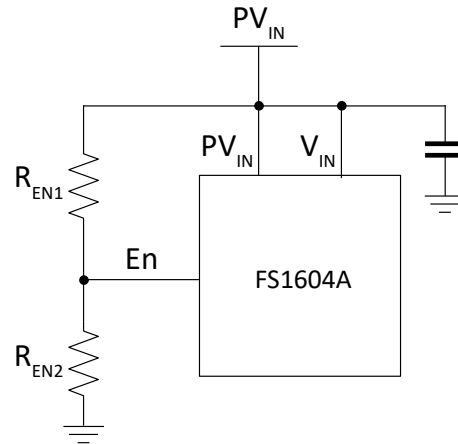
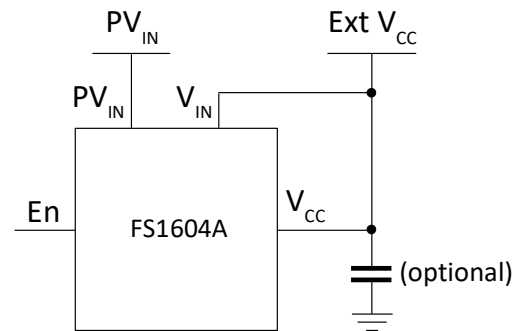

Figure 6 Single supply configuration: internal LDO regulator, adjustable PV_{IN_UVLO}
Figure 7 Using an external bias voltage
The FS1604A has an integrated Low Drop-Out (LDO) regulator, providing the DC bias voltage for the internal circuitry. The typical LDO regulator output voltage is 5.2V. For internally biased single-rail operation, the V_{IN} pin should be connected to the PV_{IN} pin (Figure 6). If an external bias voltage is used, the V_{IN} pin should be connected to the V_{CC} pin to bypass the internal LDO regulator (Figure 7).
- It can be used to implement a precise input voltage UVLO. The input of the En pin is derived from the PV_{IN} voltage by a set of resistive dividers, R_{EN1} and R_{EN2} (Figure 6). Users can program the UVLO threshold voltage by selecting different ratios. This is a useful feature that stops the FS1604A regulating when PV_{IN} is lower than the desired voltage.